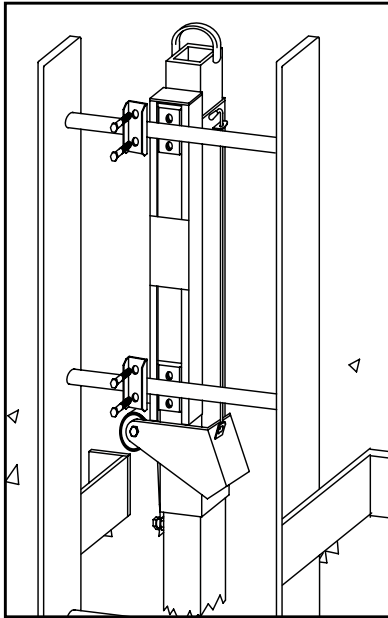

FIG. 1
2. Place the post in the center and on the wall side of the ladder, opposite of the climbing side. (Fig. 1)